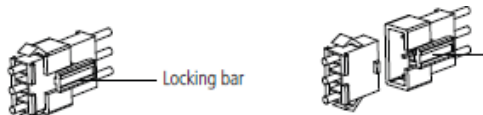

Fig. 1
5. Detach the jumper plug by pressing the locking bar and pull to release (push to connect) replace with the plug connected to the PIR (see Fig.1)